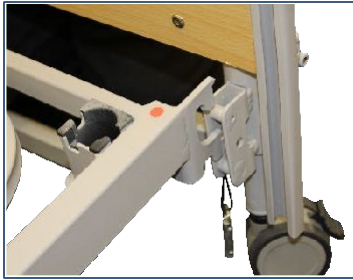
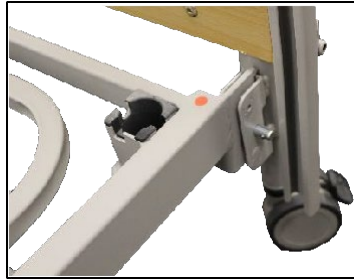

Figure 5: Connecting head platform to headboard
Figure 6: Head platform locking pin
7. Lift the head platform section onto the head section (*figure 5*) and clip into the bracket. Ensuring that the head platform section is fully clipped in place and secured with the locking pin (*figure 6*)